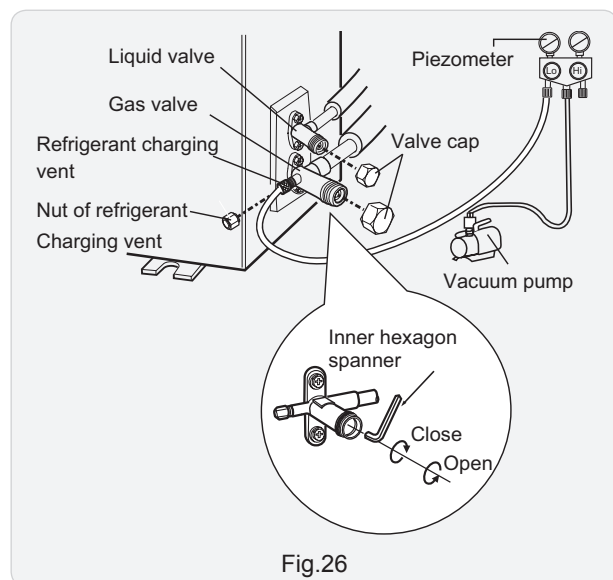

Fig.26
(5) Remove the piezometer, open the valve core of liquid valve and gas valve completely with inner hexagon spanner.
(6) Tighten the screw caps of valves and refrigerant charging vent. (As show in Fig.26)